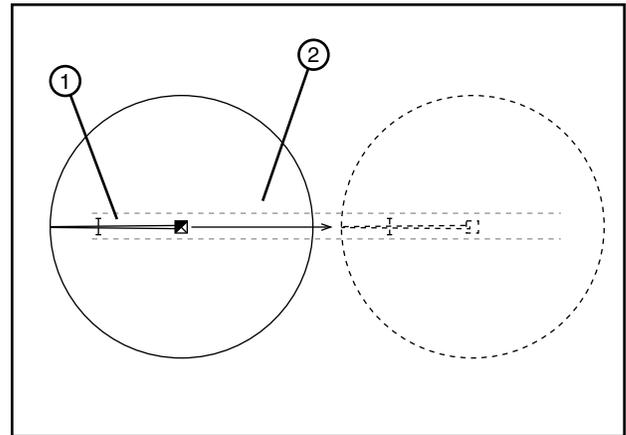

Figure 41-1 1. Machine
1. Position the machine in the tow lane. See figure 41-1.